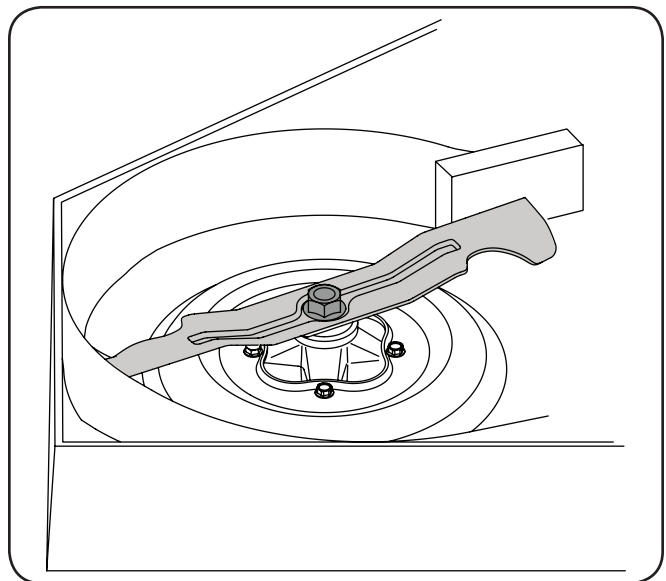

Figure 7-10
- Use a $1\frac{5}{16}$ ” wrench to hold the hex nut on top of the spindle assembly when loosening the hex nut securing the blade. A block of wood may be placed between the deck housing and the cutting edge of the blade to help in breaking loose the hex nut securing the blade. See Figure 7-10.